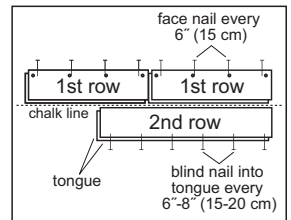

Figure 9
- Use a pneumatic finish nailer to face-nail the groove side 1/2" (13 mm) from the edge at 6" (15 cm) intervals and 1"-3" (2.5-7.6 cm) from each end. Then, blind nail using a finishing gun held at a 45° angle. Nail down through the nailing "pocket" on top of the tongue every 6"-8" (15-20 cm) (Figure 9).
- If using finish nails, pre-drill the nail holes with a 1/32" (1.7 mm) bit approximately 1/2" (12.7 mm) from back (groove) edge, 1"-3" (2.5-7.6 cm) from each end, and at 6" (15 cm) intervals. Pre-drill at the same intervals at a 45° angle through the nailing "pocket" on top of the tongue (Figure 9). Face-nail the groove side where pre-drilled. When complete, blind-nail at a 45° angle through the tongue of the first row. Fasten using 6 or 8d finish nails. Countersink nails to ensure flush engagement of the groove. Avoid bruising the hardwood by using a nail set to countersink the nails.